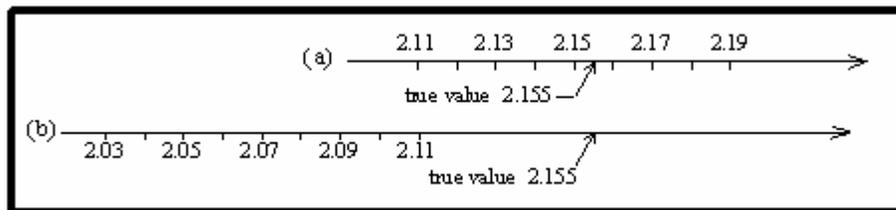

Figure 1: (a) A set of measurements taken with random errors only.
Error is known to be the difference between a calculated or observed value and the true value. All experimental uncertainties are due to the presence of two types of experimental errors: **systematic errors** and **random errors**. The difference between random errors and systematic errors can be shown by repeating the measurement of a physical quantity several times under the same conditions. Random errors are statistical fluctuations or variations in the measured data produced by the experimenter's inability to take the same measurement in exactly the same way to get exactly the same reading. Therefore, the readings will be spread about the true value. See Figure 1 (a). Systematic errors, on the other hand, are reproducible inaccuracies that causes the measurements to constantly be in the same direction (either too high or too low). They are mostly due to defects in the measuring devices which make them continually present throughout the entire experiment. Therefore, the readings will always be displaced far from the true value see Figure 1 (b). For that reason, systematic errors are difficult to detect and cannot be analyzed statistically.
where x represents the physical parameter measured, n equals the number of measurements, and x_i is the i^{th} measured value. Using Equation (1) for number of measurements is $n = 6$, the mean value of your results is $\bar{x} = 2.155$. see Figure 1(a).